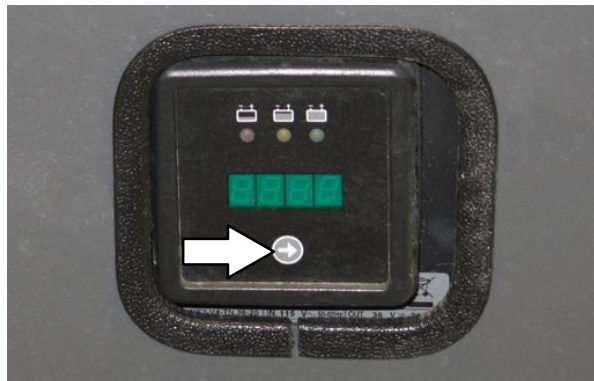
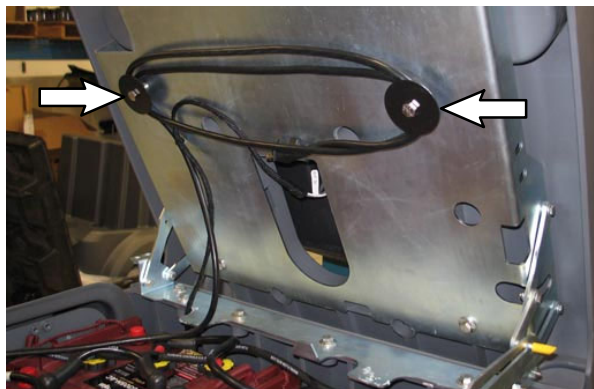
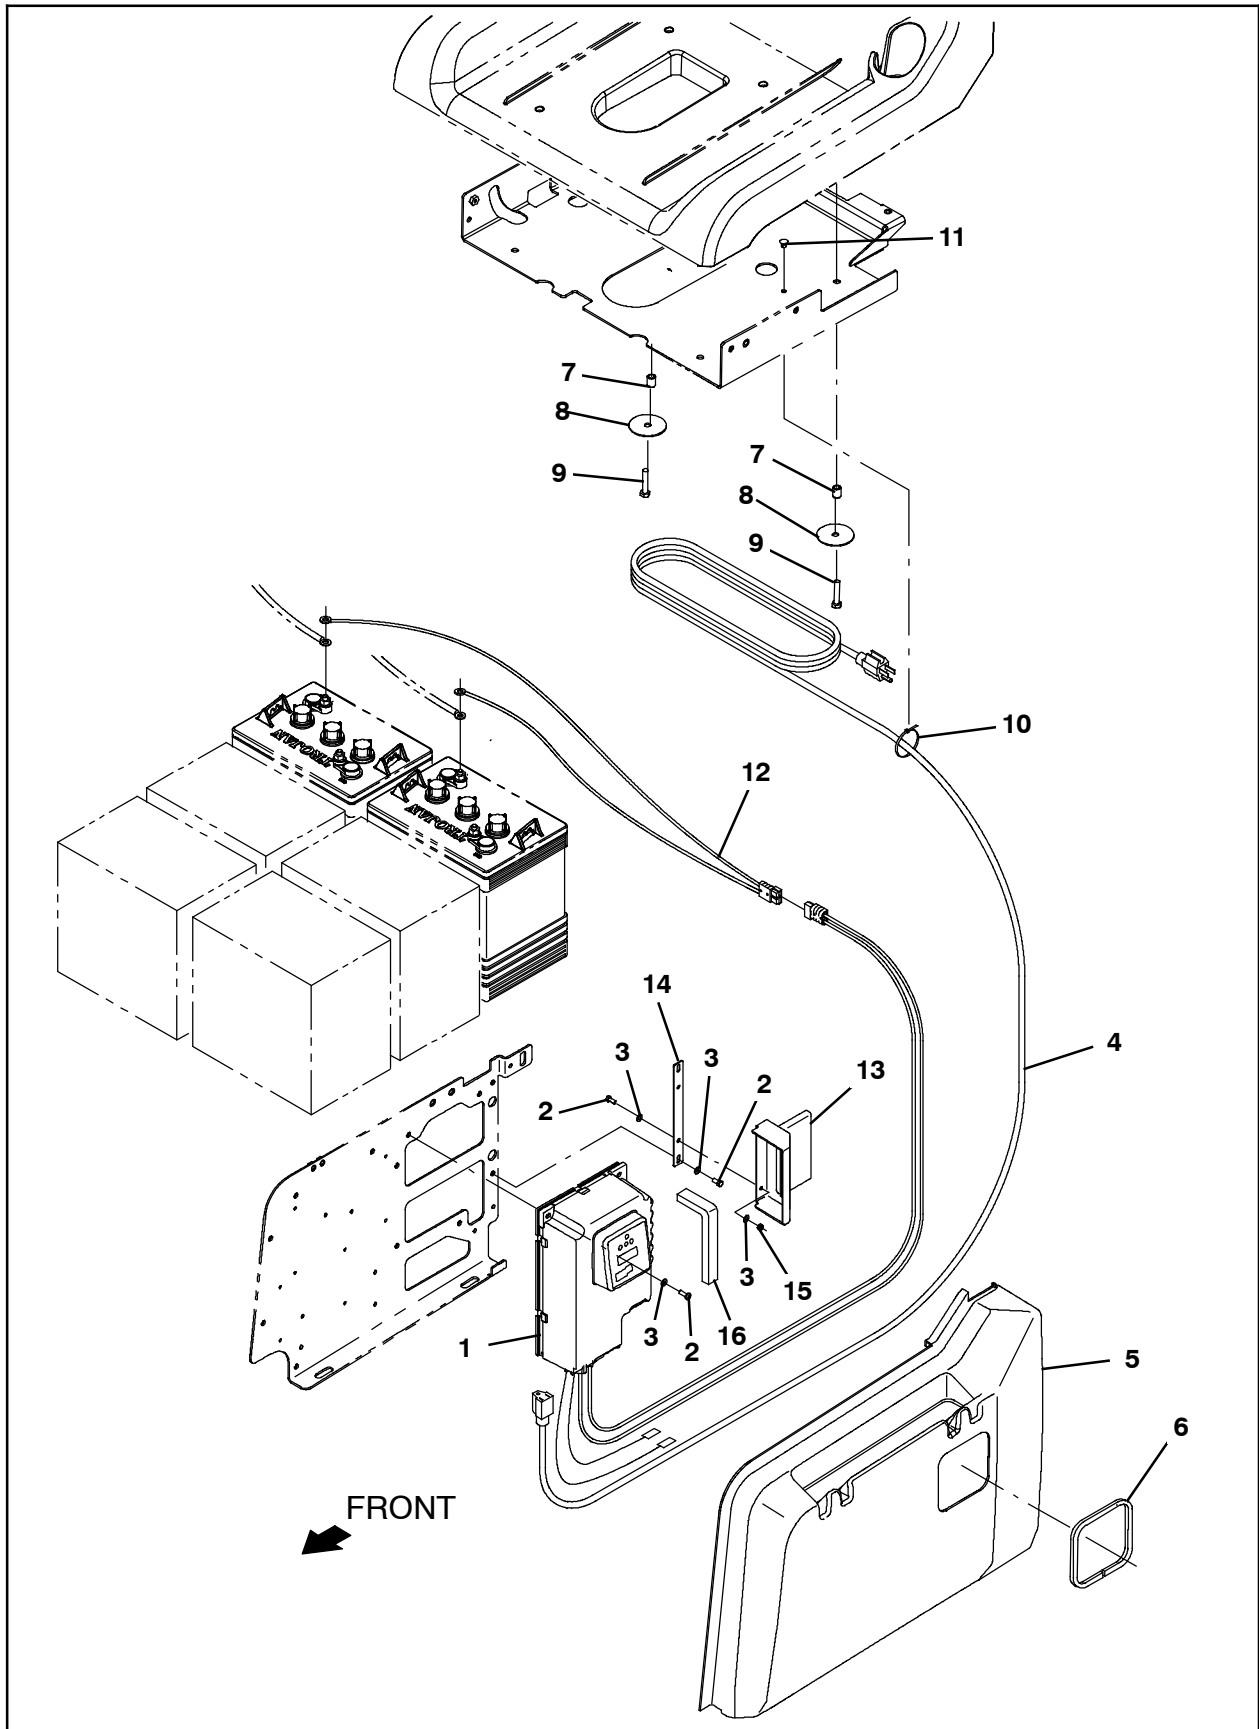

FIG. 6
FIG. 9
FIG. 10
19. Install the bracket removed from the discarded side panel onto the charger access cover (5).
20. Install the charger access cover (5) onto the machine. (Fig. 10)
22. Verify the on-board battery charger (1) settings.
23. Connect the on-board charger power cord (4) to an appropriately rated outlet.
24. Press the arrow button to verify the codes/setting. Refer to MAINTENANCE section of Operator Manual for settings/codes information. (Fig. 6)
27. Reconnect the on-board charger power cord (4) to an appropriately rated outlet and verify changed setting.
28. When through verifying/changing on-board battery charger settings, disconnect the on-board charger power cord (4) from the outlet, neatly wrap the cord (4) onto the spacers (7)/ washers (8) installed for storing the power cord. (Fig. 9/Fig. 10)